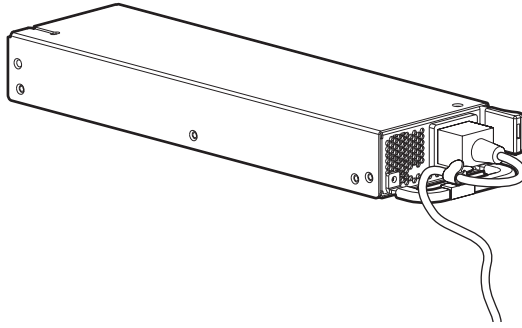

Figure 13 Secure the power cord with the strain relief clip
5. Use the strain relief clip from the node hardware kit to secure the power cord (Figure 13).